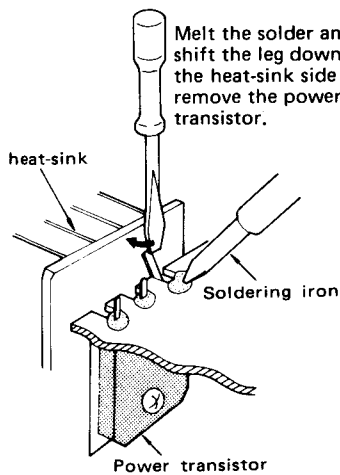

Fig. 9
1. Unsolder the power transistor as shown in Fig. 9.